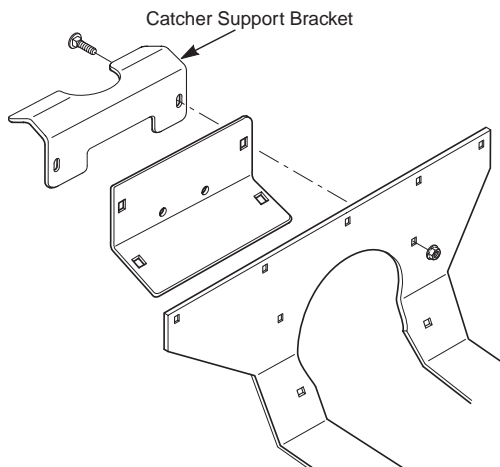

FIGURE 3-5
14. Install the catcher support bracket onto the rear of the machine and secure with 5/16-18 x 1" carriage bolts (p/n 04003-04) and 5/16-18 serrated flange nuts (p/n 04019-03) See Figure 3-5.